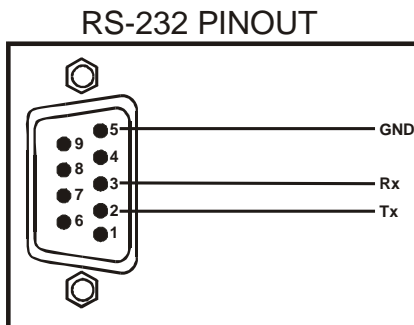

Figure 24: RS-232 PINOUT Connection
1. Connect the PC to the AUDIO PROG. terminal block connector, as defined in Figure 24 and Table 19: